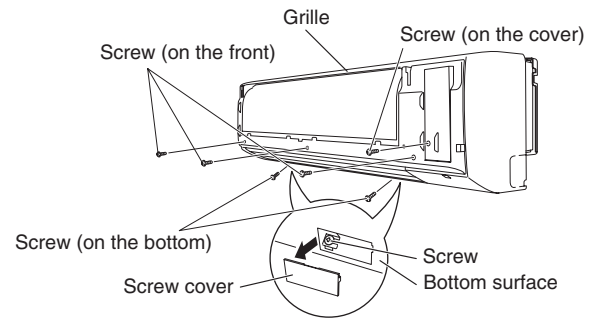

Fig. 1-156
- (3) Remove the 3 screws from the front of the unit and remove the screw covers on the bottom surface. Then remove the 2 screws. (Fig. 1-156)
- (4) Remove the screw on the right side cover plate and remove the cover. (Fig. 1-156)